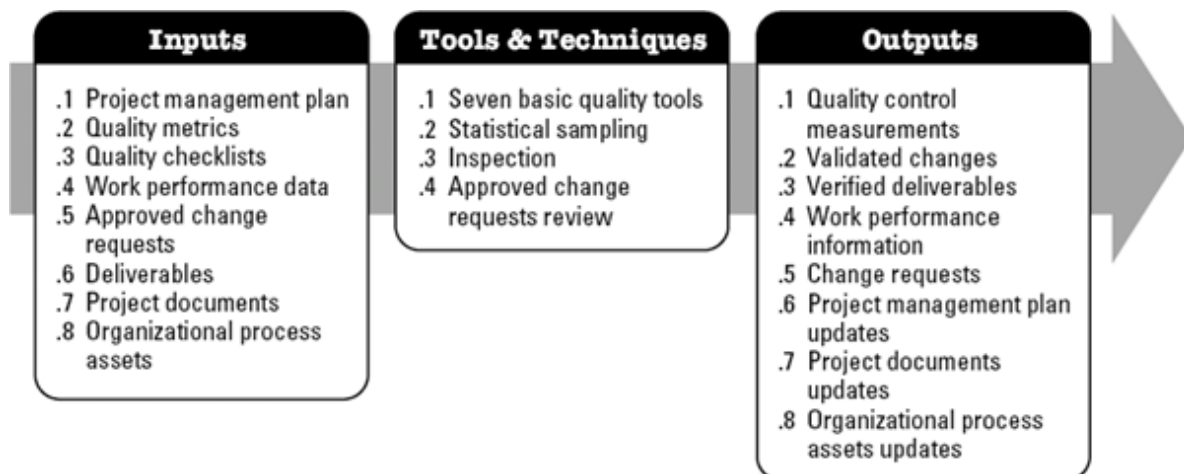

Figure 8-11. Control Quality: Inputs, Tools & Techniques, and Outputs
For quality control process was consider in monitoring and controlling phase. The key benefits of this process include: (1) identifying the causes of poor process or product quality and recommending and/or taking action to eliminate them; and (2) validating that project deliverables and work meet the requirements specified by key stakeholders necessary for final acceptance. The inputs, tools and techniques, and outputs of this process are depicted in Figure 8-11.
According to figure 8-11 the technique for apply in this quality control, we focus on seven basic quality tool such as: Cause-and-effect diagram (also known as the "fishbone" or Ishikawa diagram), Check sheet, Control chart, Histogram, Pareto chart, Scatter diagram, and Stratification (alternately, flow chart or run chart). With the respect to PCC project, I will show one example of cause-and-effect diagram of PCC system.